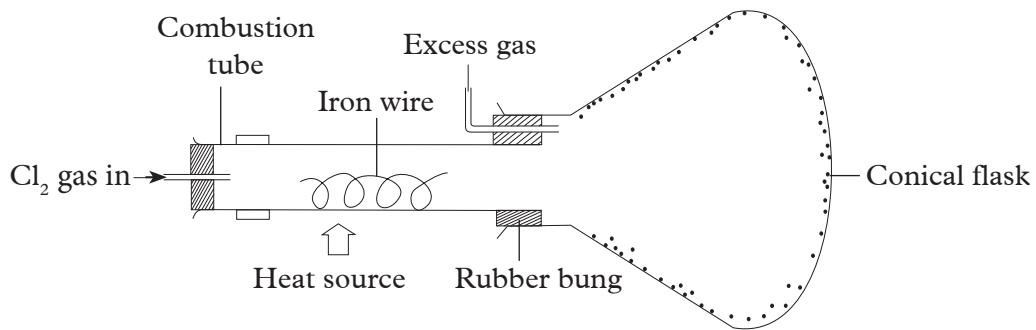

Fig 4.6: Reaction of chlorine with iron
- Why is it possible to collect the product from the combustion tube into the conical flask as shown in fig 4.6?